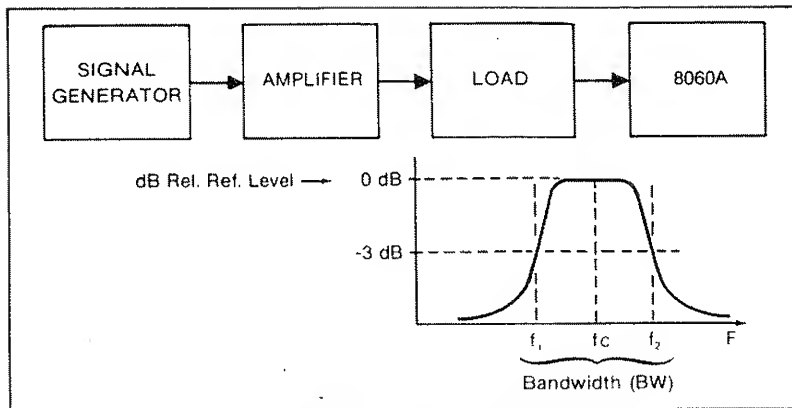

Figure 3-1. Measuring Amplifier Bandwidth
1. Connect the amplifier, signal generator, load, and 8060A as shown in Figure 3-1.
3. Adjust the signal generator for a signal level that is within the input operating range of the amplifier. Beginning at a low frequency (20 Hz), steadily increase the frequency until the ac voltage reading on the 8060A begins to rise. Typically the ac voltage readings will rise to a peak, level out, and then begin to fall, much like the response curve shown in Figure 3-1. (High quality audio amplifiers will probably not show a rise in readings since they are generally flat from 20 Hz to >20 kHz. In this case, use 1 kHz as a midband reference for 0 dB in Step 4).